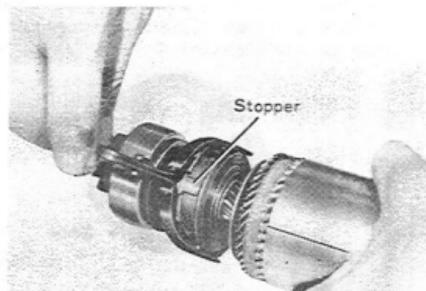

Fig.8-18 Assembling Pinion W8642
2. When assembling the pinion drive lever to the drive ring of the starter clutch, position the drive ring stopper as shown in figure 8-18.